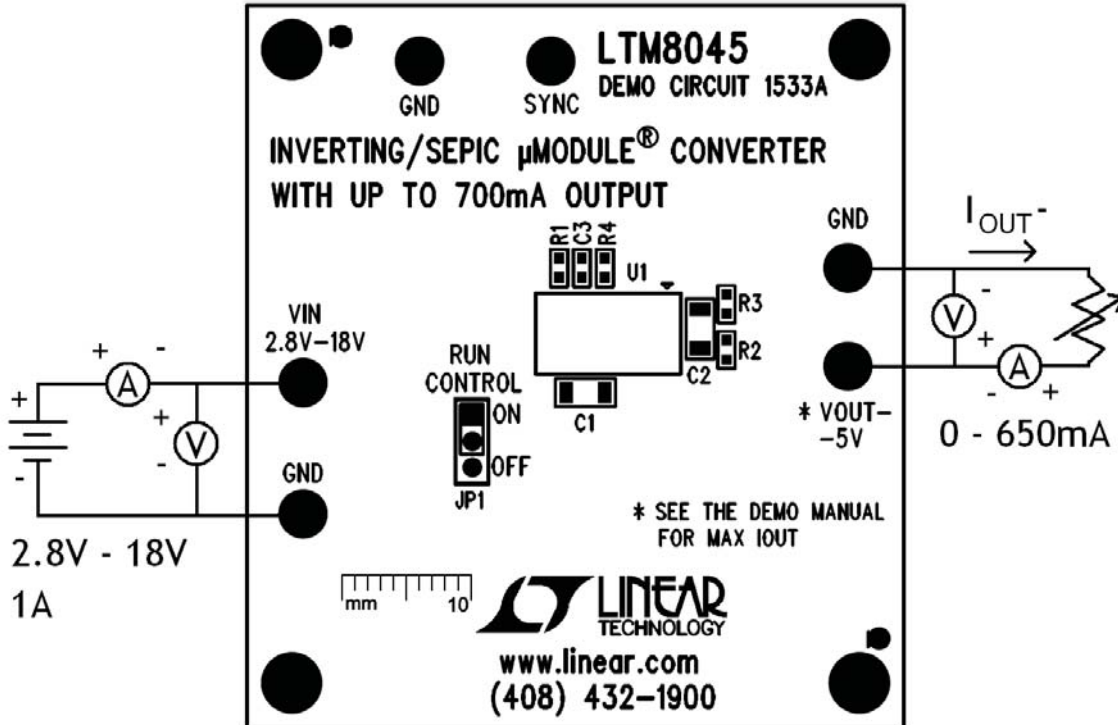
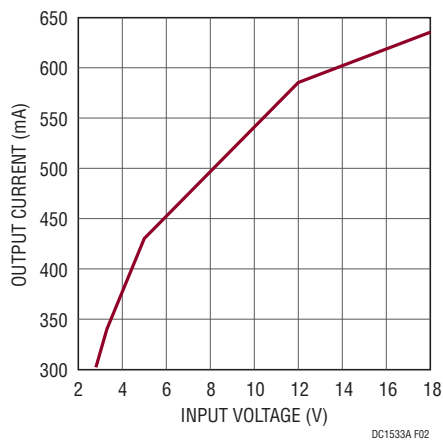

Figure 1. Proper Measurement Equipment Setup
Figure 2. Maximum Output Current vs Input Voltage for $V_{OUT} = -5V$
Demo circuit DC1533A is an easy way to evaluate the performance of the LTM8045. Refer to Figure 1 for the proper measurement equipment setup and Figure 2 for the maximum output current versus input voltage, then follow the procedure below:
2. Connect the power supply (with power off), load, and meters as shown in Figure 1.
* SEE FIGURE 2 FOR THE MAXIMUM OUTPUT CURRENT VERSUS VIN.